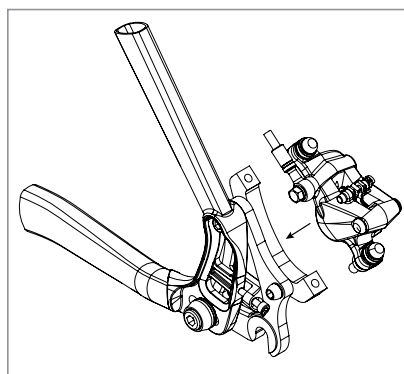

Figure 3
3. Install the rear brake caliper, rear wheel, and then align and secure the brake caliper to the rotor per the brake manufacturer's instructions (FIG 3).